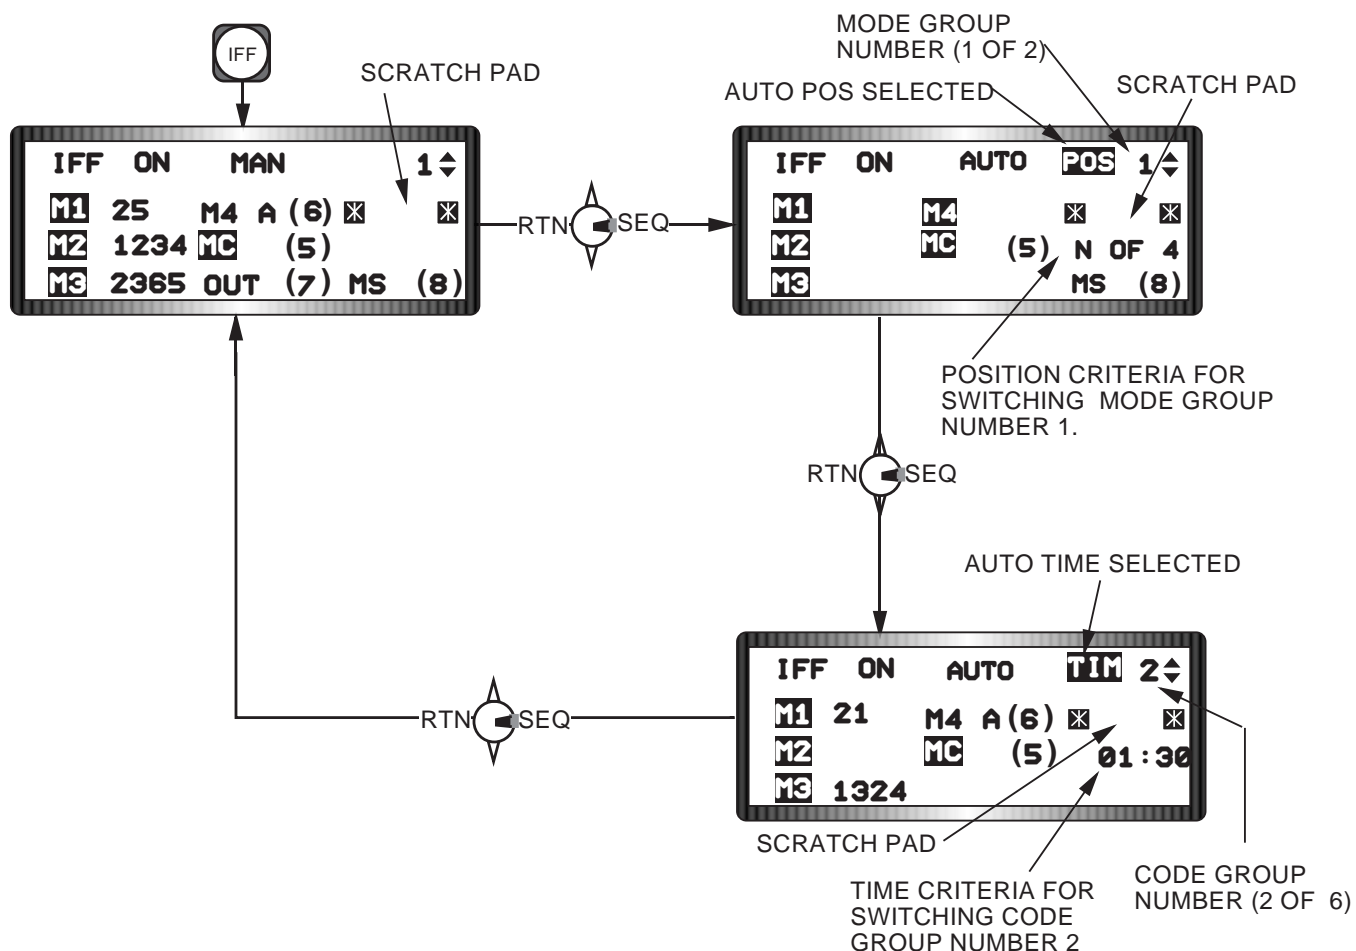

Figure 1-52 Auto IFF DED Pages
**Auto IFF Feature.** The Auto IFF feature provides automatic switching of transponder modes and codes based on either aircraft position or time. The feature may be programmed manually or through a DTC Load. There are three AUTO switching options: (1) POS, which is mode switching based on aircraft position; (2) TIM, which is code switching based on time; and, (3) both Position (POS) and Time (TIM). The Auto IFF DED pages are accessed from the Manual (MAN) IFF DED page (Figure 1-52). Moving the DCS (dobber) switch to the right rotaries the pages from MAN to AUTO POS to AUTO TIM and back to MAN. To enable AUTO IFF options, "dobber" right to select the appropriate page (asterisks about the appropriate mnemonic at the top of the page) and depress the ICP Mode Select (M-SEL) button. Both AUTO modes (TIM and POS) may be mode selected and operated in parallel with one another however, Manual (MAN) and Automatic (AUTO) modes can not be operated together. In addition, MAN and AUTO modes and codes do not overwrite or replace one another when transitioning between manual and automatic transponder operations.
**Auto Position.** AUTO POS mode can be viewed as a switch that turns the transponder modes "ON" when the aircraft passes a pre-defined position North, South, East or West (N, S, E, or W) from a referenced steerpoint. The POS mechanization allows the pilot to define two groups of modes that can be controlled. Each group may consist of any combination of six available transponder modes (Modes 1, 2, 3, 4, C, and S). The AUTO POS DED page (Figure 1-52) can be identified by the POS mnemonic at the top of the page and the absence of any transponder codes in the body of the page. When the AUTO POS page is accessed the asterisks default about the POS mnemonic. Depressing the M-SEL button highlights the mnemonic, activates the POS mode, and moves the asterisks to the scratchpad. Immediately to the right of the POS mnemonic is the currently selected mode group (1 or 2). The mode group may be changed by depressing the INC/DEC switch on the ICP. As each mode group is selected, the preprogrammed mode mnemonics associated with the group will illuminate on the DED page. Current modes may be modified by placing the asterisks about the scratchpad, depressing the appropriate mode numeral and ENTR. The mode mnemonic will highlight (on)/dehighlight (off) to reflect mode status as each mode numeral is selected and the ENTR button is depressed.
**Auto Time.** AUTO TIM mode can be viewed as a switch that turns "ON" Mode 1, 3, and 4 transponder codes based on the time of day. Switching of mode 2, C, and S codes are not a functional part of the TIM capability. The TIM mechanization allows the pilot to program up to six code groups and the times that they will be activated. The AUTO TIM DED page, shown in Figure 1-52, can be identified by the TIM mnemonic at the top of the page. When the AUTO TIM page is accessed the asterisks default about the TIM mnemonic. Depressing the M-SEL button highlights the mnemonic, activates the AUTO TIM mode, and moves the asterisks to the scratchpad. Immediately to the right of the TIM mnemonic is the currently selected code group numbers (1 through 6). Code groups may be changed by depressing the INC/DEC switch on the ICP. As each code group is selected, the programmed codes will appear next to the currently selected modes; and, the time that the codes will be activated appears directly below the scratch pad. Currently programmed codes may be modified by placing the asterisks about the scratchpad, depressing the appropriate code number sequence and ENTR. Modified codes will appear next to the appropriate mode as they are entered.